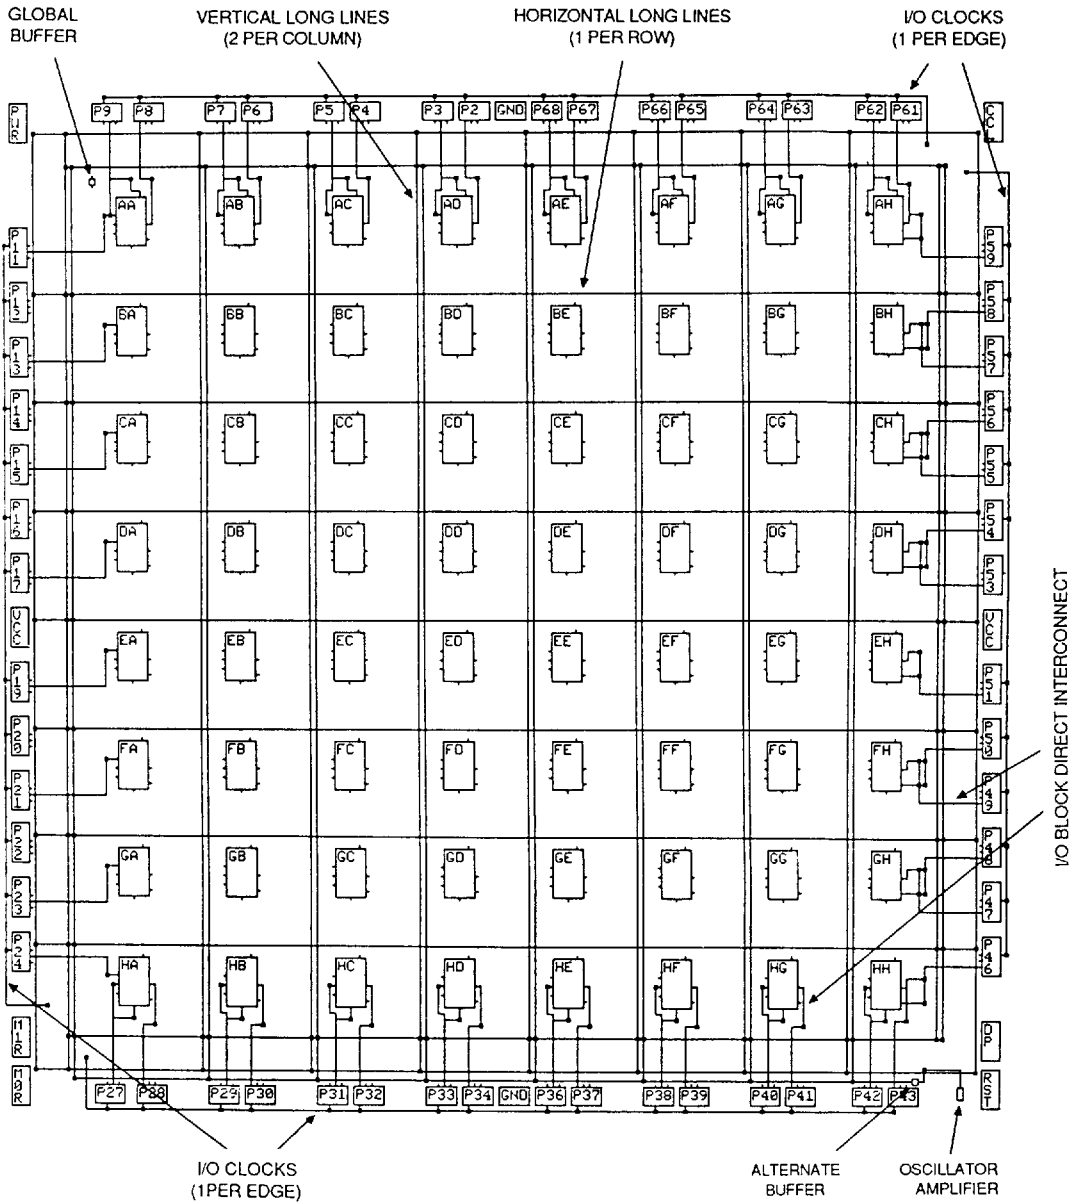

Figure 8b. XC2064 Longlines, I/O Clocks, I/O Direct Interconnect
Alternatively, these Longlines can be driven by a logic or I/O block on a column by column basis. This capability provides a common, low-skew clock or control line within each column of logic blocks. Interconnections of these Longlines are shown in Figure 8b.
Direct interconnect, shown in Figure 9, provides the most efficient implementation of networks between adjacent logic or I/O blocks. Signals routed from block to block by means of direct interconnect exhibit minimum interconnect propagation and use minimum interconnect resources. For each Configurable Logic Block, the X output may be connected directly to the C or D inputs of the CLB above and to the A or B inputs of the CLB below it. The Y output can use direct interconnect to drive the B input of the block immediately to its right. Where logic blocks are adjacent to I/O blocks, direct connect is provided to the I/O block input (I) on the left edge of the die, the output (O) on the right edge, or both on I/O blocks at the top and bottom of the die. Direct interconnections of I/O blocks with CLBs are shown in Figure 8b.
Figure 8b also shows the location of an internal high speed inverting amplifier which may be used to implement an on-chip crystal oscillator. It is associated with the auxiliary buffer in the lower right corner of the die. When the oscillator is configured by MAKEBITS and connected as a signal source, two special user IOBs are also configured to connect the oscillator amplifier with external crystal oscillator components as shown in Figure 10. The oscillator circuit becomes active early in the configuration process in order to allow the oscillator to stabilize. Actual internal connection is delayed until completion of configuration. In Figure 10, the feedback resistor R1, between the output and input, biases the amplifier at threshold. The inversion of the amplifier, together with the R-C networks and an AT-cut series resonant crystal, produce the 360-degree phase shift of the Pierce oscillator. A series resistor R2 may be included to add to the amplifier output impedance when needed for phase-shift control, crystal resistance matching, or to limit the amplifier input swing to control clipping at large amplitudes. Excess feedback voltage may be corrected by the ratio of C2/C1. The amplifier is designed to be used from 1 MHz to about one-half the specified CLB toggle frequency. Use at frequencies below 1 MHz may require individual characterization with respect to a series resistance. Crystal oscillators above 20 MHz generally require a crystal which operates in a third overtone mode, where the fundamental frequency must be suppressed by an inductor across C2, turning this parallel resonant circuit to double the fundamental crystal frequency, i.e., 2/3 of the desired third harmonic frequency network. When the oscillator inverter is not used, these IOBs and their package pins are available for general user I/O.